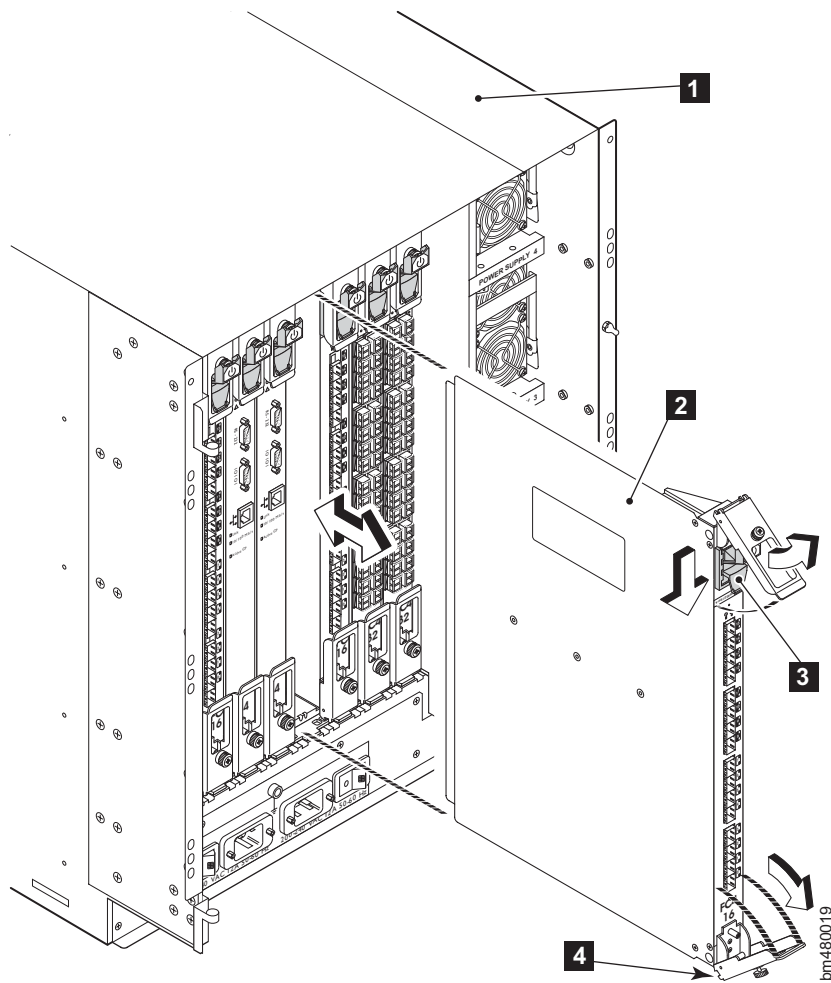

Figure 30. Port blade removal and replacement (16-port blade shown as example)
This section describes how to remove and replace FC4-16 port blades and FC4-32 port blades (see Figure 30 on page 58) and blade filler panels (see Figure 31 on page 61) from the director. A filler panel should be removed only when being replaced with a port blade or new filler panel. Any slot that is not occupied by a port blade should be occupied by a filler panel to ensure correct cooling of the chassis and protection from dust. Slots are numbered from one through ten, from left to right, when facing the port side of the directors.
7. Turn the port blade off by sliding the on/off switch in the top ejector down, to the off position (see **3** in Figure 30 on page 58). This initiates a hot-swap request.